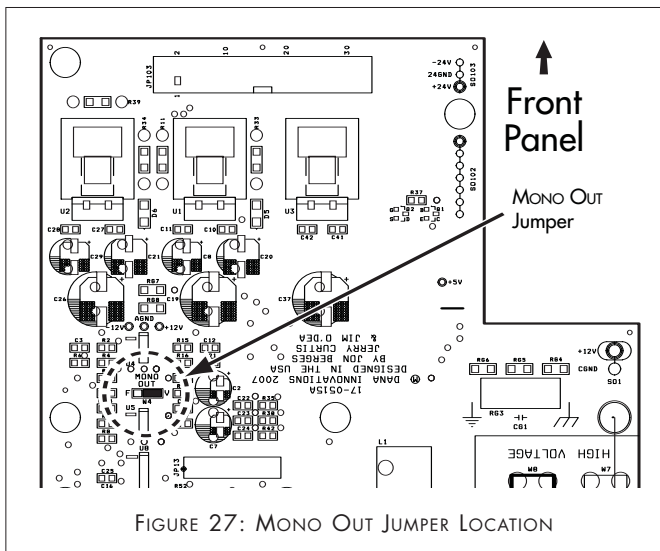

FIGURE 27: MONO OUT JUMPER LOCATION
3. Locate the MONO OUT section on the circuit board (see *Figure 27*).